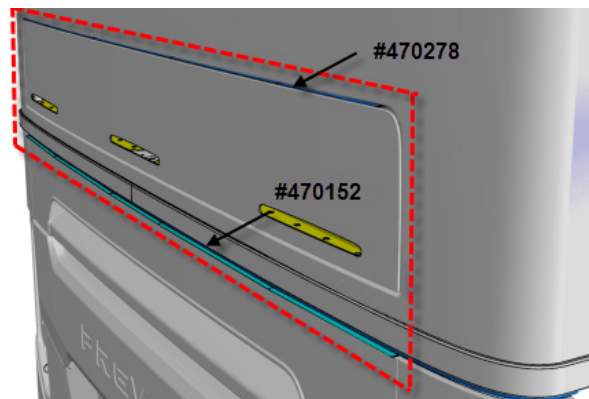

FIGURE 42
2. See on FIGURE 42 where each drip edge will be positioned. The drip edges will be fastened on the vehicle body, **not on** the ATS access hatch.
5. Clean dirt on the area located right above the ATS access hatch and the area where the lower drip edge will be installed (FIGURE 42). It is very important to install the drip edges on a clean surface to ensure water tightness.